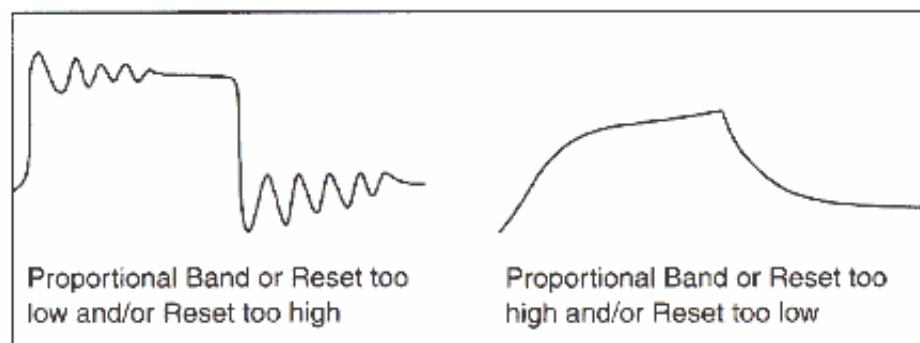

Figure 4 Setting RESET and/or RATE PV
5. Excessive overshoot implies that the Prop Band and/or RESET are set too low, and/or RATE value is set too high. Overdamped response (no overshoot) implies that the Prop Band and/or RESET is set too high, and/or RATE value is set too low. Refer to Figure 4. Where improved performance is required, change one tuning parameter at a time and observe its effect on performance when the setpoint is changed. Make incremental changes in the parameters until the performance is optimized. Figure 4 Setting RESET and/or RATE PV
5. Restart the system and bring the process to setpoint with the controller in the loop and observe response. If the response has too much overshoot, or is oscillating, then the PID parameters can be changed (slightly, one at a time, and observing process response) in the following directions: 5. Refer to figure 4, vary the proportional band, the Reset value, and the Rate value to achieve best performance.